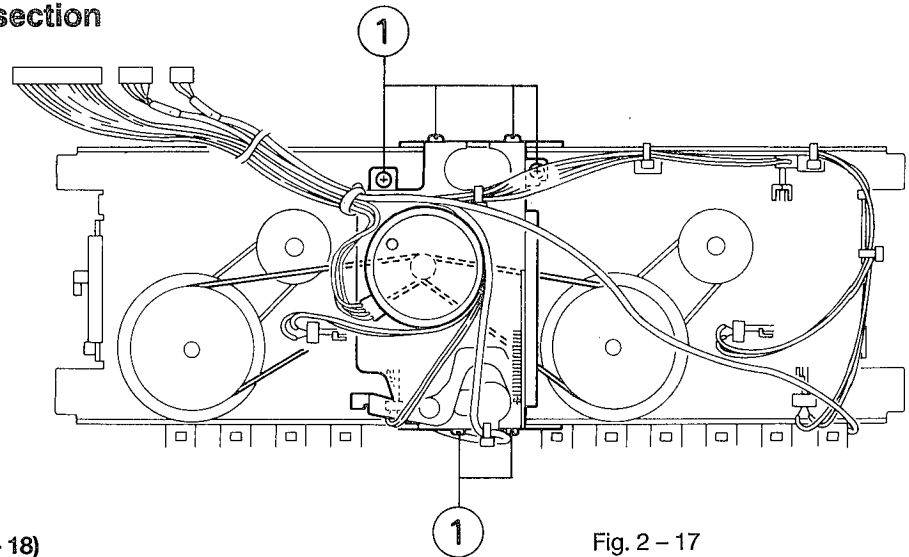

Fig. 2 - 17
■ Capstan motor (Fig. 2 - 17, Fig. 2 - 18)
5. Remove six screws ① retaining the motor bracket from the back of the cassette mechanism.
7. Remove six screws ② retaining the Capstan motor from the back of the cassette mechanism.